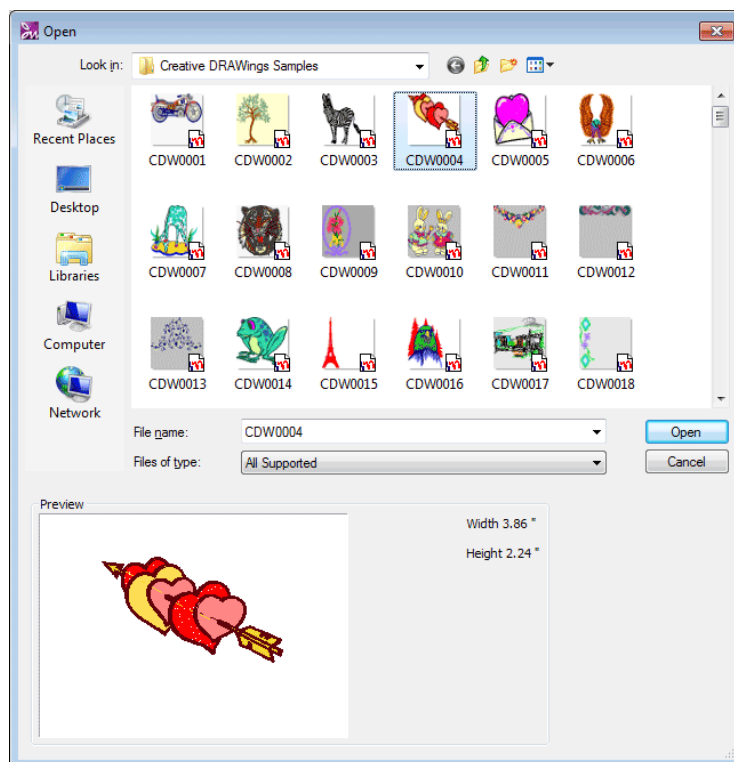

Figure 2.33: Open design dialog
7. The **Open** dialog box will appear (Figure 2.33) and you can find the design you want to embroider.